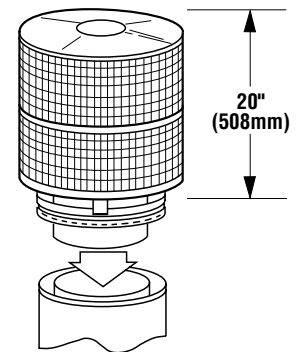

Figure 32
1. Hold FTF13-CTD over top of last chimney section (see Figure 32).